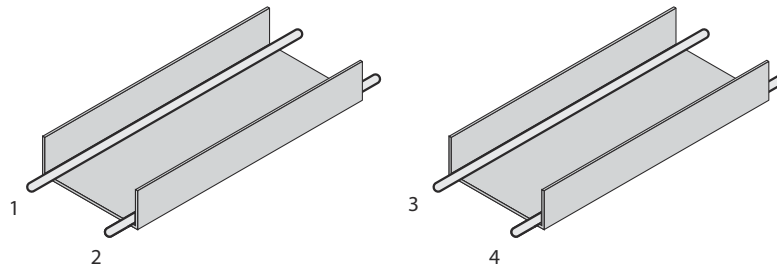
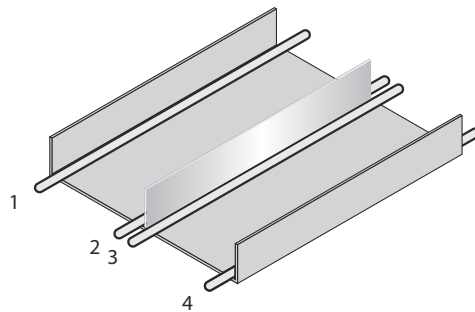

Figure 6: Ideal laying - Place cables in different cable channels
Figure 7: Alternative laying - Separate cables with metallic separators
- ▶ Cables in groups 1, 2 and 3, 4 must be routed in different cable channels or metallic separators must be used, see figure 6 and see figure 7. This applies particularly where cables of devices with a high level of radiated emission, such as frequency converters, are laid parallel to sensor cables.